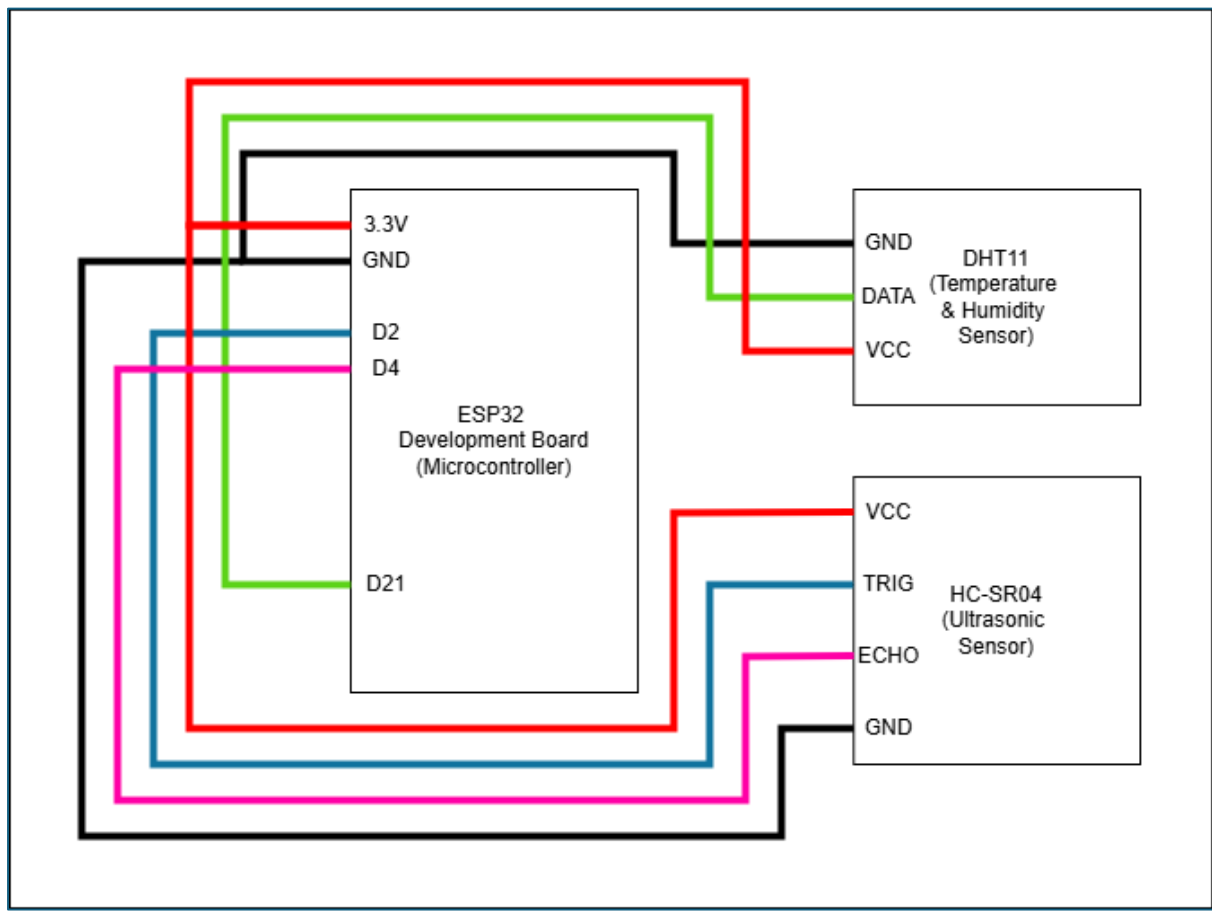
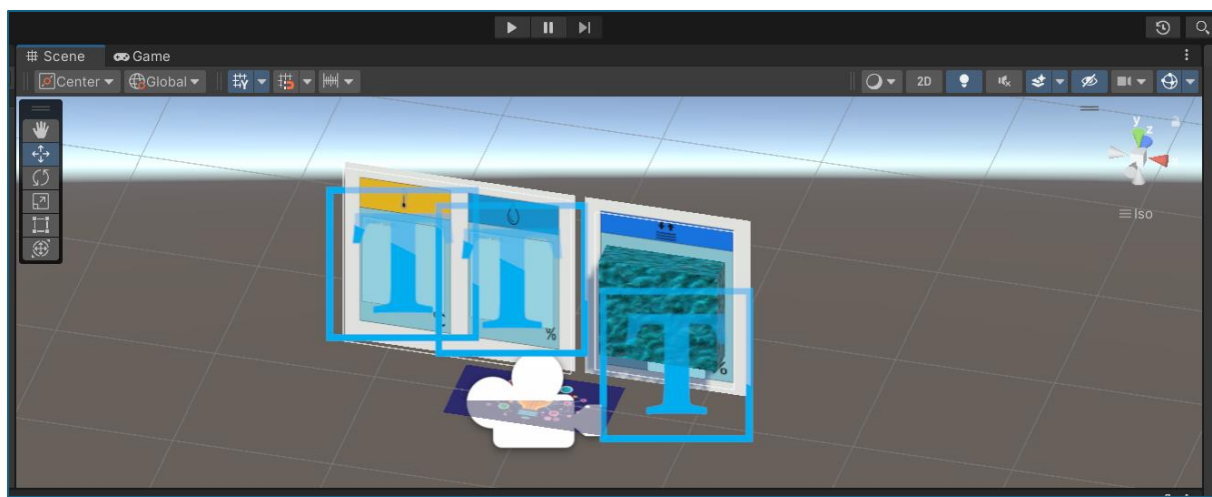

Figure 1: Circuit Diagram of the AR-Based IoT Environmental Monitoring System
Figure 2: Unity AR Scene Design
The Unity scene design (Figure 2) for this project consists of a dynamic Augmented Reality (AR) environment where users can visualize real-time sensor data. The scene uses a target image that is stored in a database in Vuforia to trigger the AR content when detected. When activated, the app will display UI elements such as the appropriate backgrounds, text fields for the environmental variables (temperature, humidity and water level) fetched from Blynk Cloud from the monitoring system (Figure 1), and a resizable cube with water texture (LowlyPoly, 2019) representing the water level in a tank. The overall layout is simple and intuitive, with well-placed text fields and AR visuals, ensuring that the user can easily interact with and interpret the data in real-time.